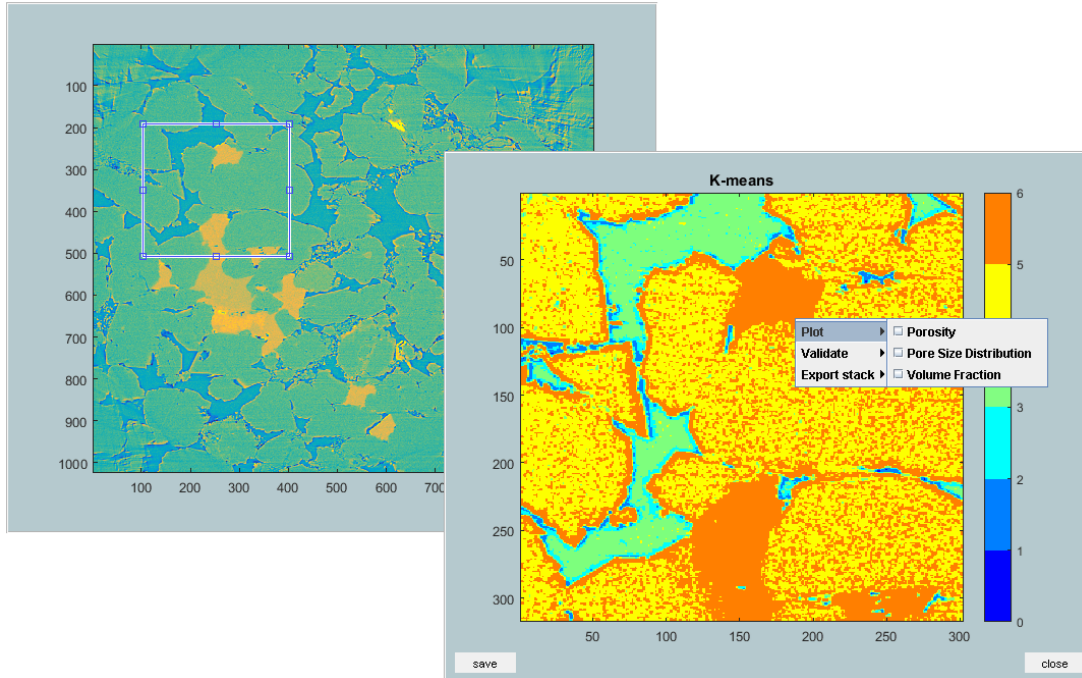

Figure 13: Evoking geometrical parameters with a right click
**NOTE:** Geometrical parameters can also be plotted by placing the **cursor** on the **segmented slice**, **right click** and navigate to the respective option as shown in Figure 13.